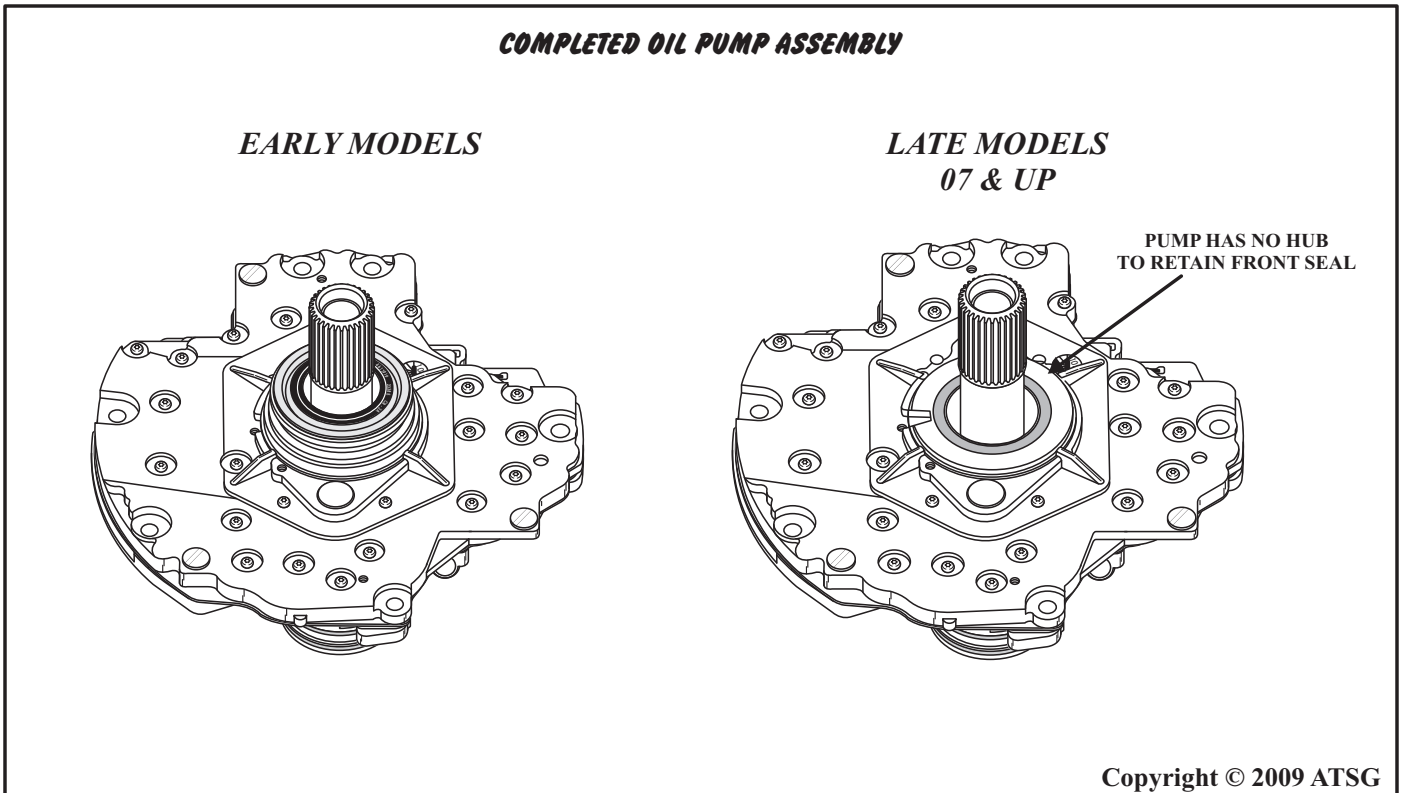

Figure 97
22. Set the completed oil pump assembly aside for the final assembly process (See Figure 97).